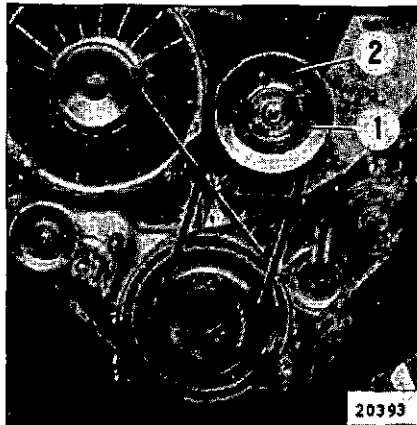

Fig. 35
1. Unscrew hex. bolts 1 (Fig. 35).
4. Retighten bolts 1 (Fig. 35) while turning over the engine with the turning device to prevent the belt to be squeezed.